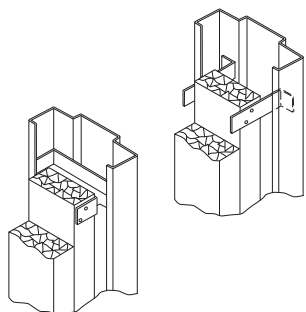

Fig. 12 – Wood Studs
Anchor installation - wood stud wall construction (see fig. 12)
- Set spreader. Attach jambs to floor through floor anchor or floor extension. Install double jamb studs to floor and ceiling runners and header (see fig. 12).